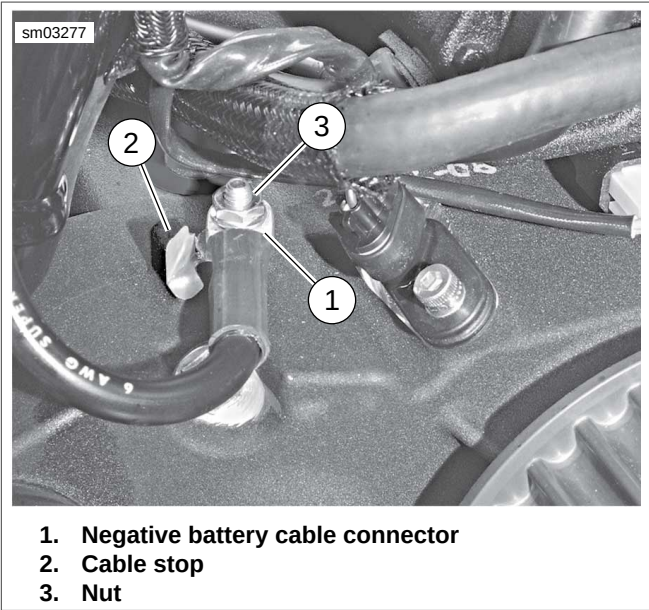
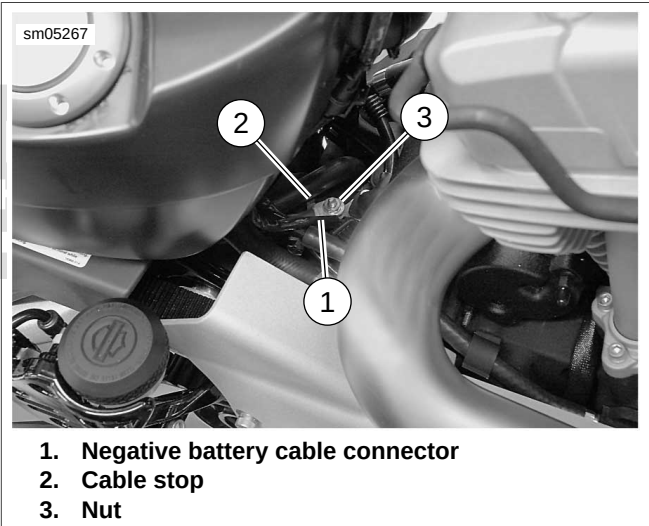

Figure 1-68. Attaching Negative (-) Battery Cable to Ground Stud Crankcase: XL Models
Figure 1-69. Attaching Negative (-) Battery Cable to Ground Stud Crankcase: XR Models
- Place negative (-) battery cable connector onto ground stud (5) on crankcase boss behind starter motor assembly (3). Thread nut (2) onto stud.
- See Figure 1-68 or Figure 1-69. Press negative (-) battery cable connector (1) against cable stop (2) on crankcase and tighten nut (3) to 55-75 **in-lbs** (6.2-8.5 Nm).